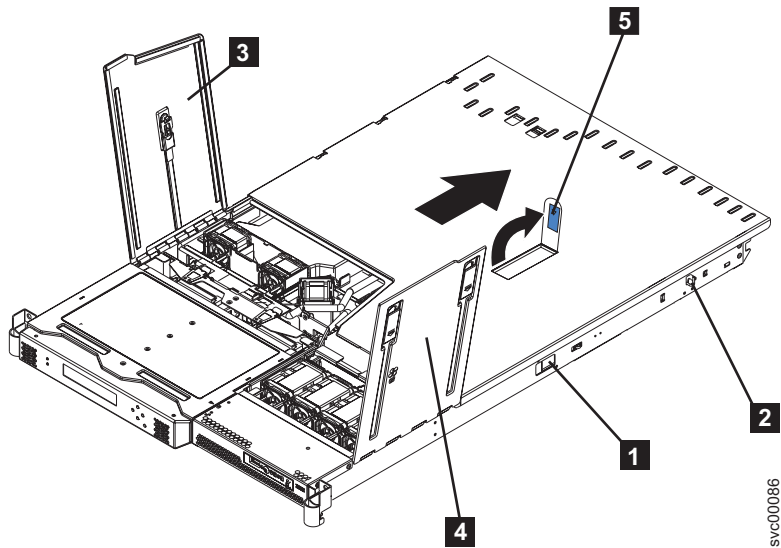

Figure 71. SAN Volume Controller 2145-8F2 or SAN Volume Controller 2145-8F4 with fan doors open
- b. Slide both side release latches (left and right) toward the front of the node. Make sure that both rail-lock pins (**2** in Figure 71 on page 86) are in a vertical position, pull the node out, and remove it from the rack.